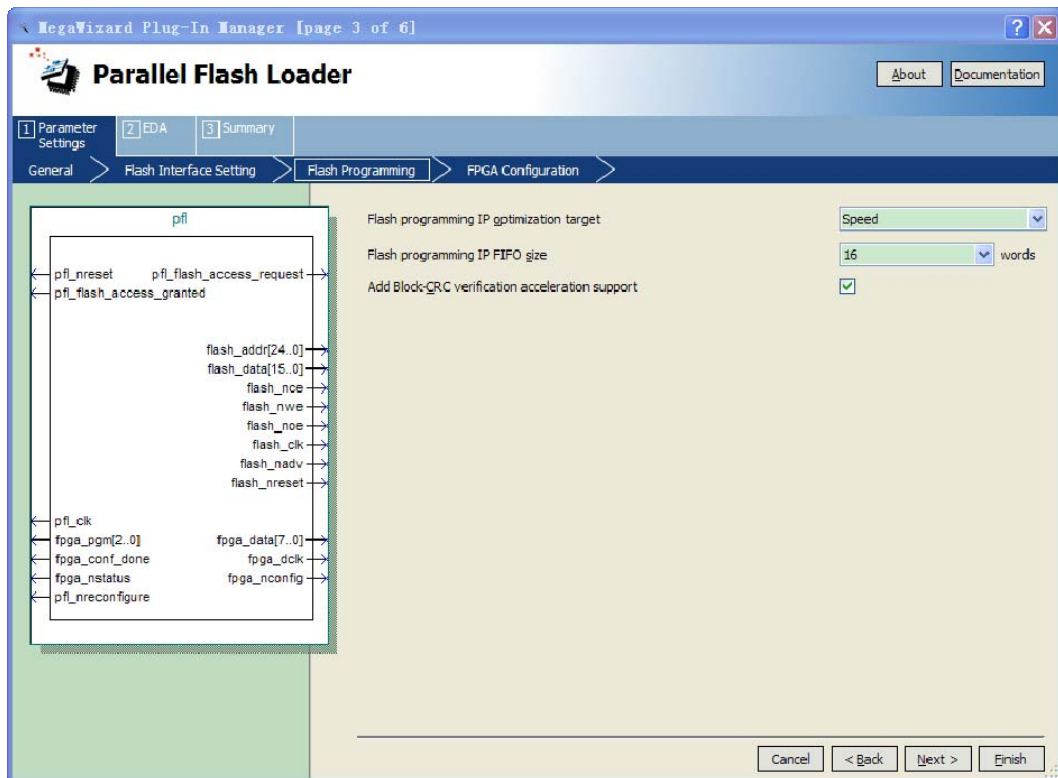

Figure 3-11 Setting the PFL Megafunction Parameters(Step 3)
8. Click Next. **Flash Programming** page appears and specify value as shown in Figure 3-11.